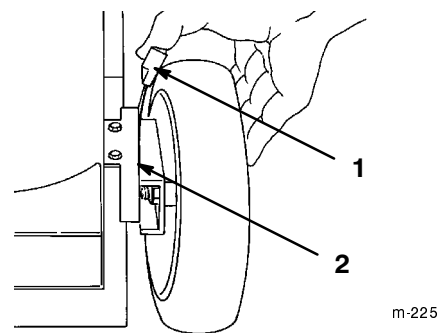

Figure 20
3. Set all four wheels in to the 2-3/4 in. (70 mm) cutting height setting (Fig. 20).
3. Squeeze the cutting height adjuster lever toward the wheel (Fig. 20) and move it to the desired setting.